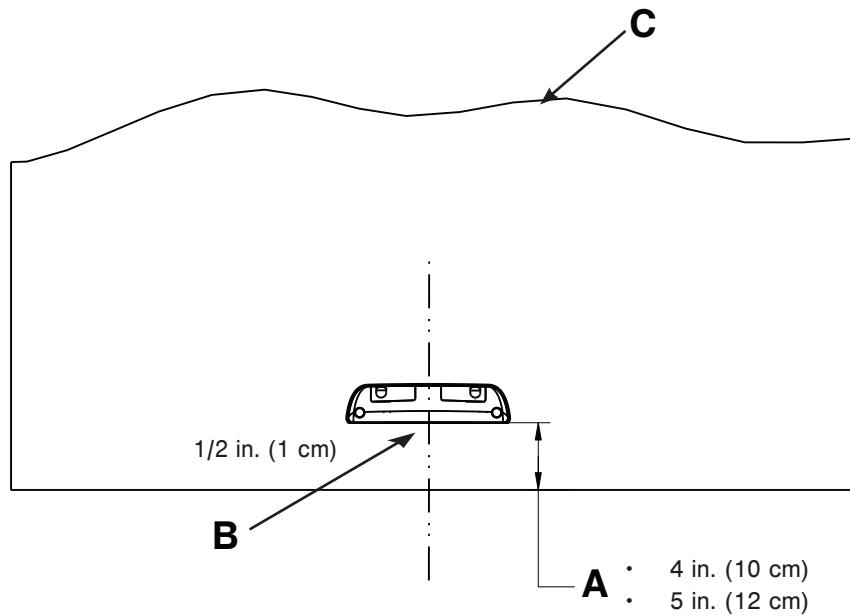

Figure 4 – Mounting specifications
2. Using a tape measure and pencil, mark the center of the wall between a minimum of 4 in. (10 cm) to a maximum of 5 in. (12 cm) (A) from the floor (Figure 4).